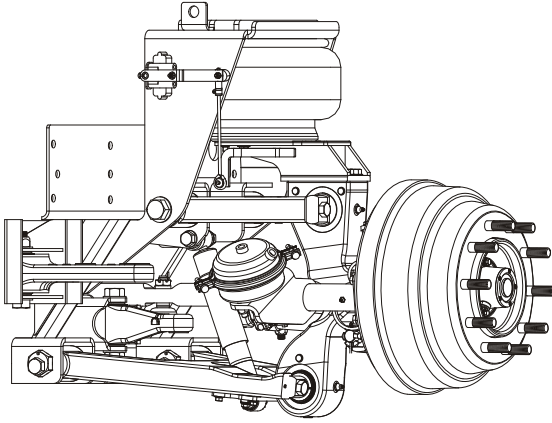

Figure 9 - Steering Arms
2. Start vehicle engine. Oscillate the steering wheel and observe the motion of the steering arms (Figure 9). The steering arms should not exhibit any noticeable conical motion about their pivot axes.